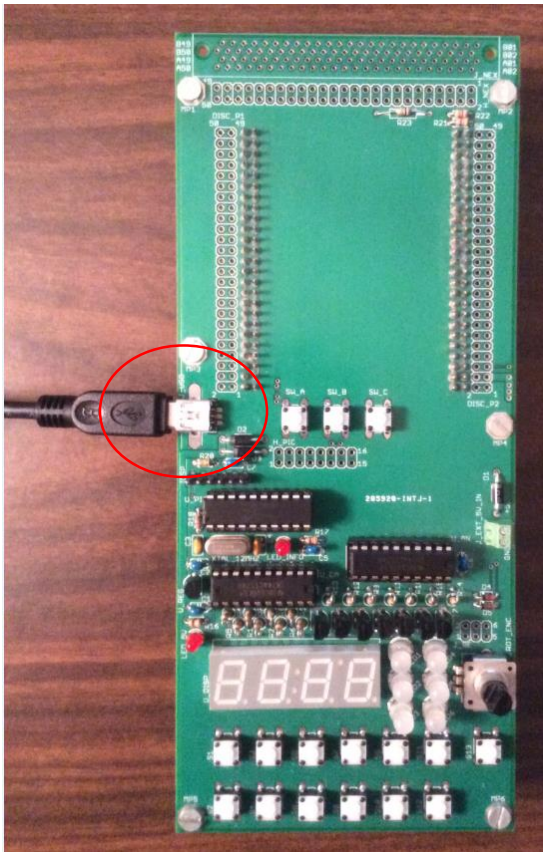

Figure 3: USB connected to JNEX on Expansion Board
1. Disconnect the USB mini and connect it to the JNEX connector on the left side of the expansion board (see Fig 3)
5. Change the serial configurations to 96008N1 (see Fig 3)